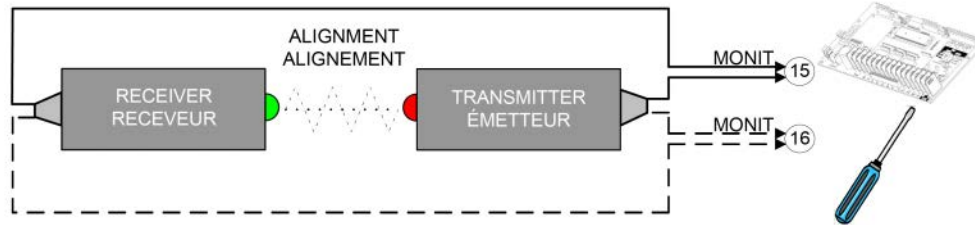

Figure 3 - Connection to the Electronic Control Circuit
- Uncoil the wires from the units, route and connect them to **Terminals 15 and 16** on the electronic control board (BOARD070M), as seen in Figure 3.